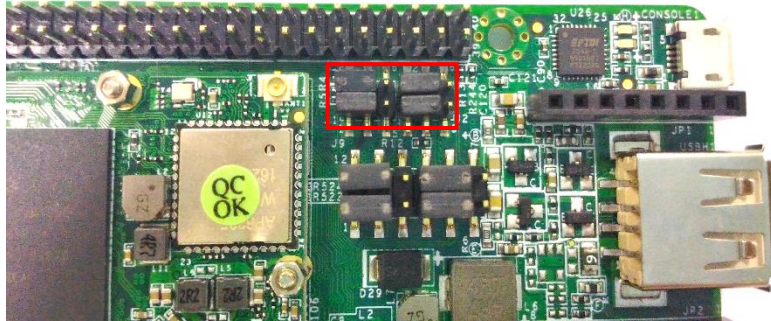

Figure 2a. Jumper Setup (Download Mode)
2. Make your board into Serial download, as explained in Chapter 3, figure 2a.